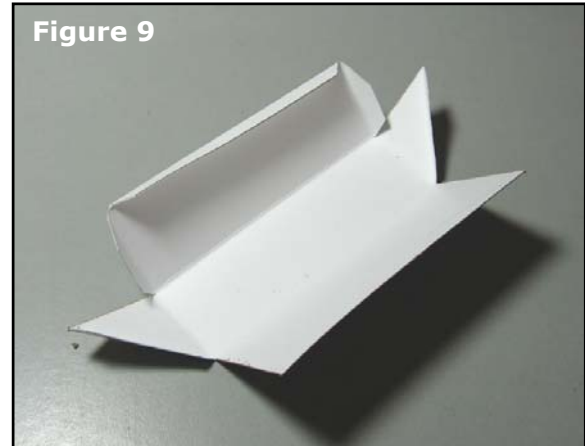

Figure 9
1. Fold along the dotted lines/scores and burnish to create a sharp crease (Figure 9).